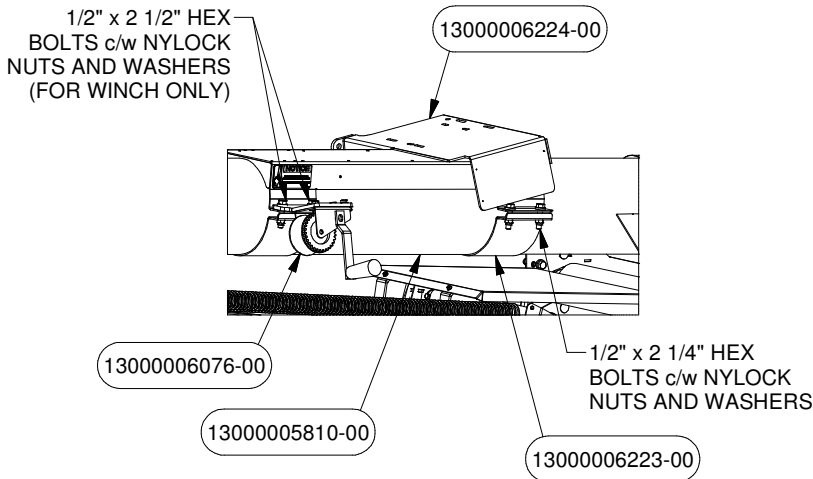

FIGURE 13
26. Attach the Motor Mount PN# 6224 and Clamps PN# 6223 using Hex Bolts c/w Nylock Nuts and Washers to the Intake PN# 5810. Take note that the Motor Mount should be 10" away from the Bottom Return. Mount the Winch PN# 6076 to the Clamp as shown in Figure 13.